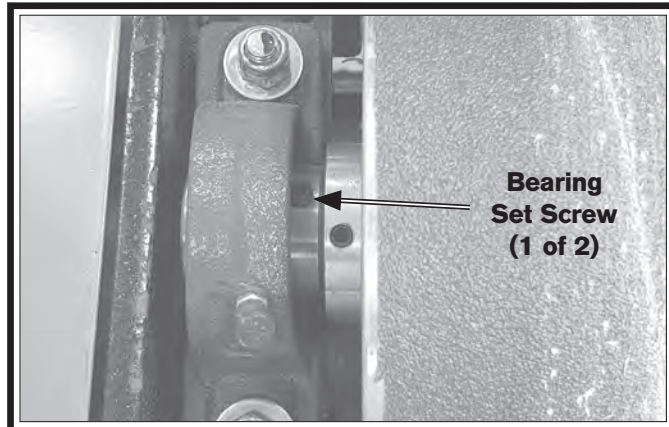

Figure 54. Location of bearing set screw.
5. Loosen (2) bearing set screws, as shown in Figure 54, then remove bearing and bearing block from drum spindle.